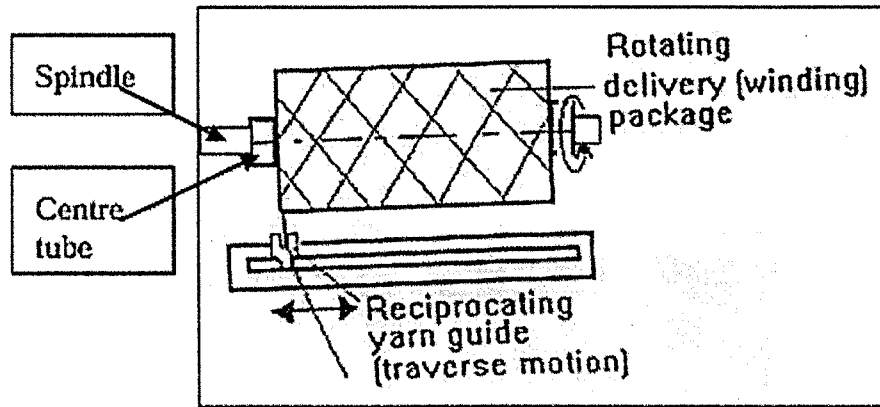

Figure 01.
- a) Figure 01. shows a winding mechanism. Briefly describe the two motions involved in the winding process that ensure even distribution of yarn on a cone or tube.